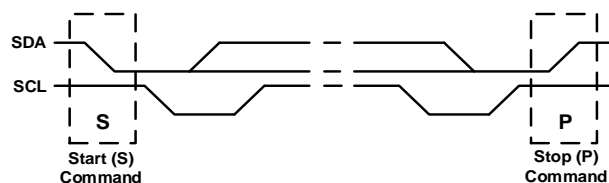

Figure 6: Start and Stop Commands
The start and stop conditions are signaled by the master device, which signifies the beginning and end of the serial digital interface transfer. The start (S) command is defined as the SDA signal transitioning from high to low while the SCL is high. The stop (P) command is defined as the SDA signal transitioning from low to high while the SCL is high (see Figure 6).